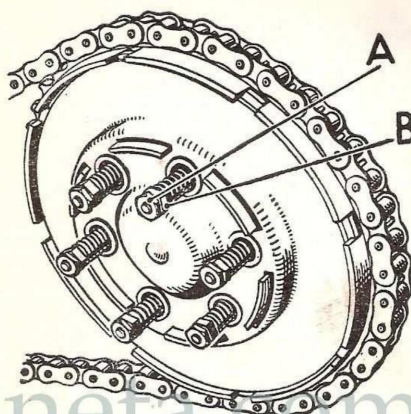

Fig. 15. Clutch spring adjustment.
2. *The locknuts A (Fig. 15).* These must be slackened off and it is only necessary to hold the nuts B stationary with another spanner while locknuts A are released.